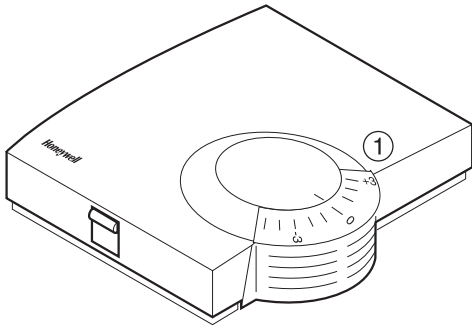

Fig. 5: HCW 82
- ▶ Select the desired change of the preset temperature at the adjustment dial (1) (see Fig. 5) (settings on the scale in $^{\circ}\text{C}$).
- ▶ Check whether the adjustment dial is in the position shown in Fig. 5.